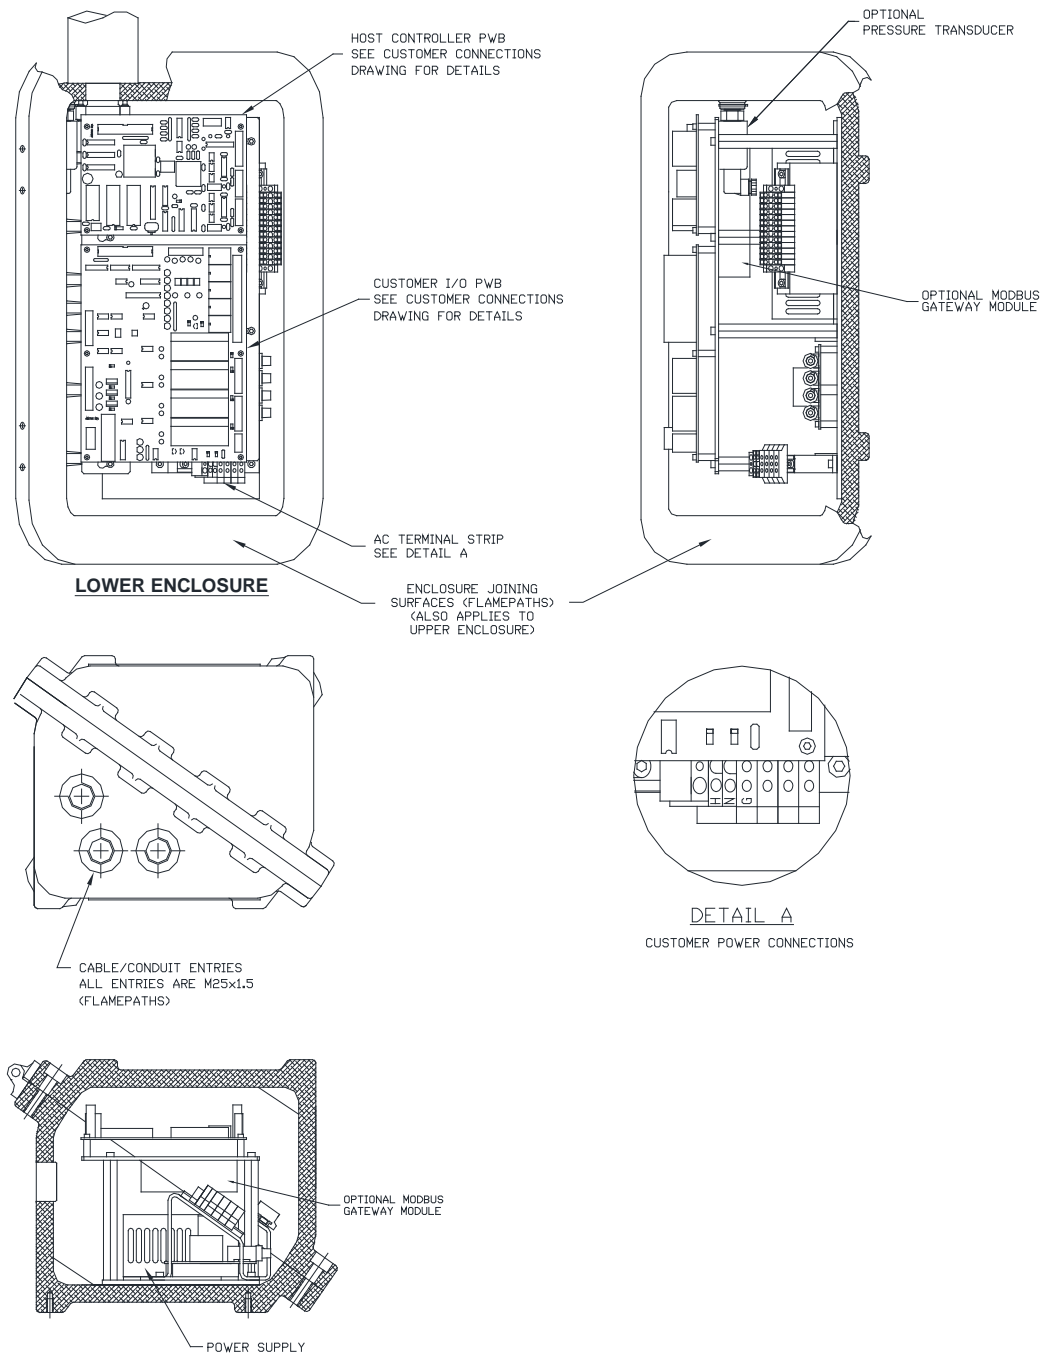

Figure 2.
The AC electrical supply cable, which must be approved by local wiring regulations and electrical codes for the hazardous area, enters the Lower Enclosure through the Power Cable Entry on the bottom of the enclosure (Figure 2).
The AC power connections are made at the terminals designated “**H**”, “**N**”, and “**PE**” (at **TB1**) on the AC Terminal Strip (Figure 2, Detail A).
- The Ex d Upper and Lower Enclosure flanges (Figure 2), cable entry ports (Figure 2), and the Digital Communications Port Body-Cover joining surfaces (Figure 4).